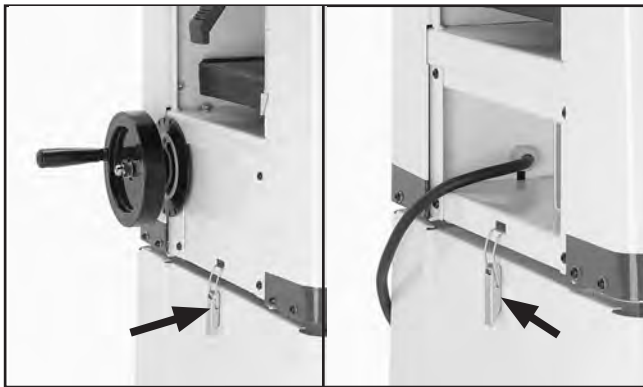

Figure 7. Location of latches.
1. Unlatch the machine top from the base at both ends (**Figure 7**).